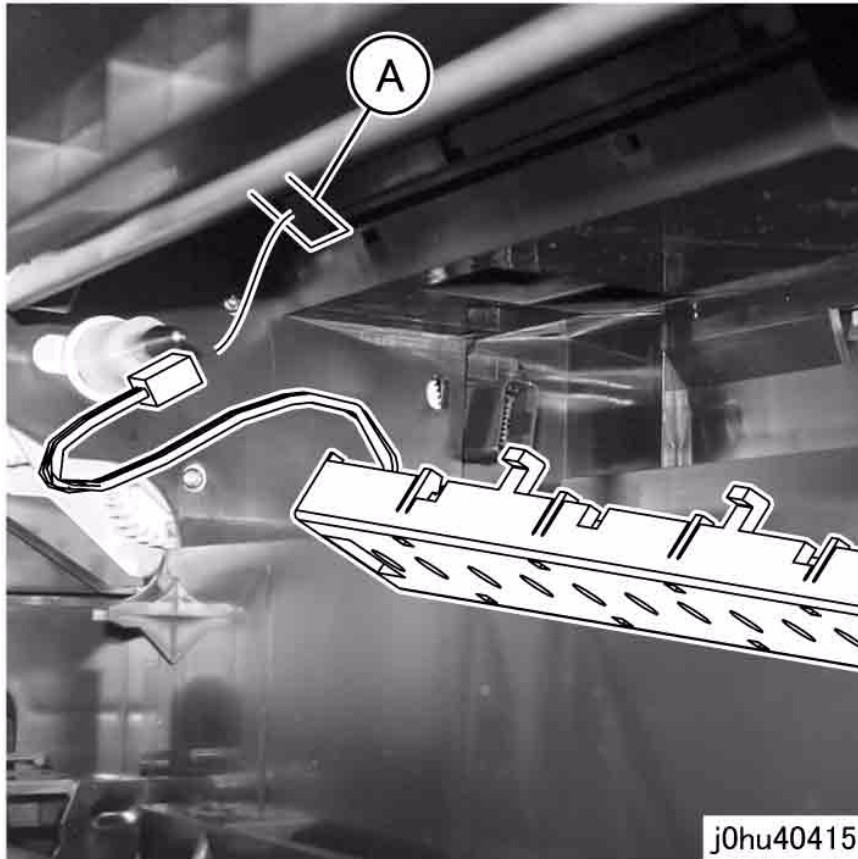

Figure 3 Insert Connector Housing
2. Insert the Connector Housing of the Erase Lamp into the square hole in the frame (Figure 3).
- (A) Square hole